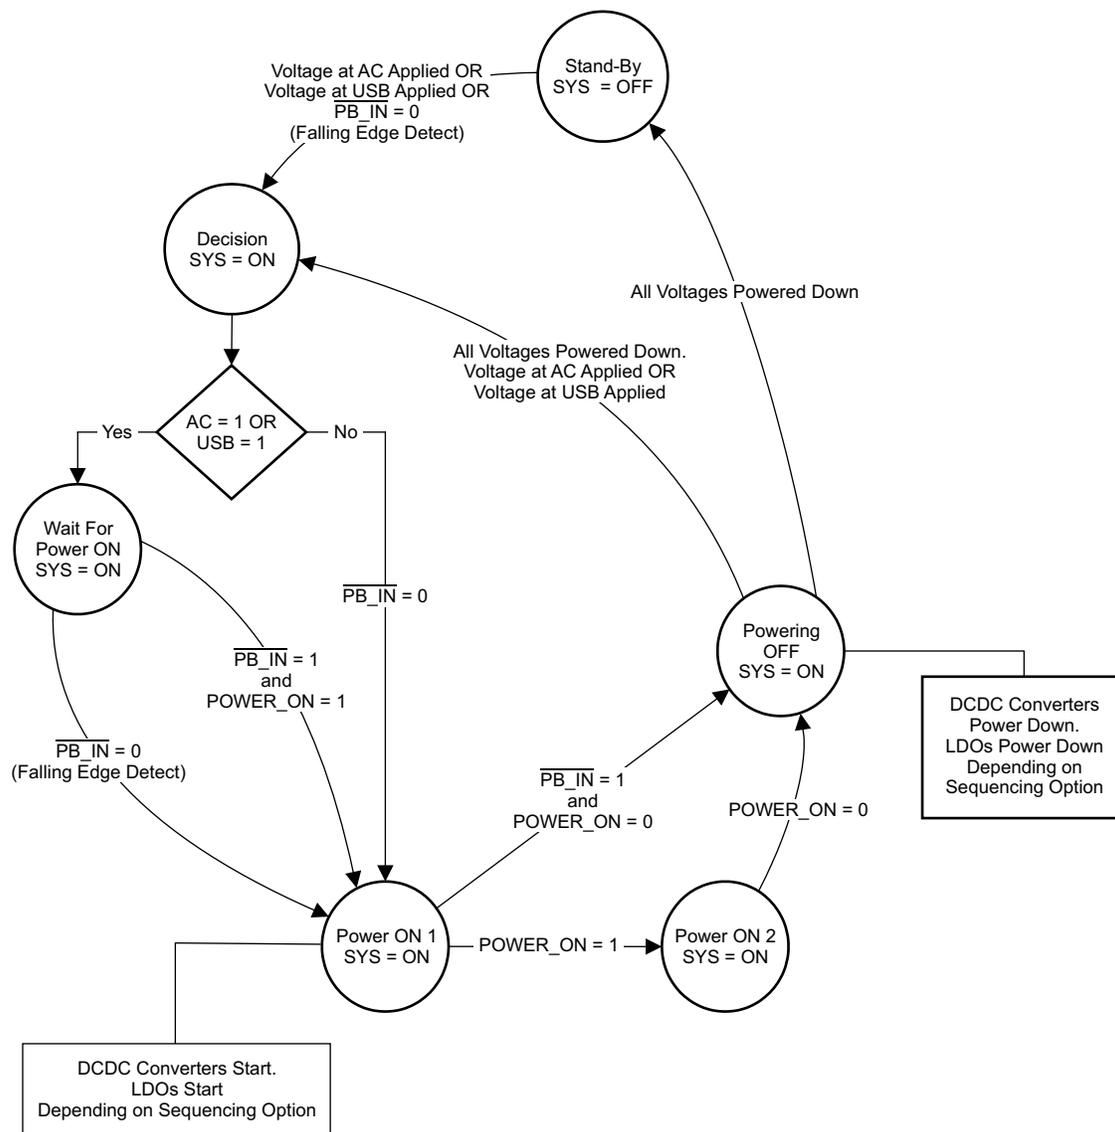

Figure 2. State Machine
The state machine⁽¹⁾ shown in Figure 2 is helpful when attempting to visualize the start-up and shut-down procedures.
(1) The state machine shown in Figure 2 is a slight modification of the state machine found on pg. 34 of the TPS6507x datasheet (SLVA418)